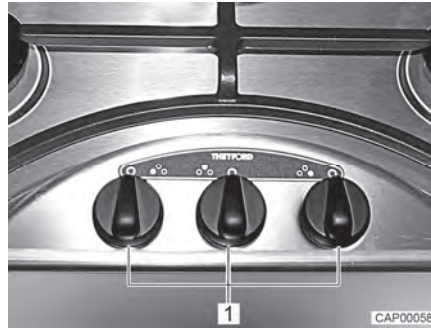
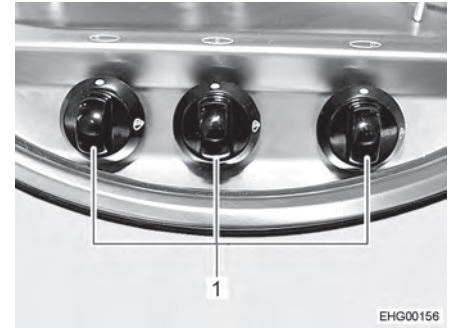
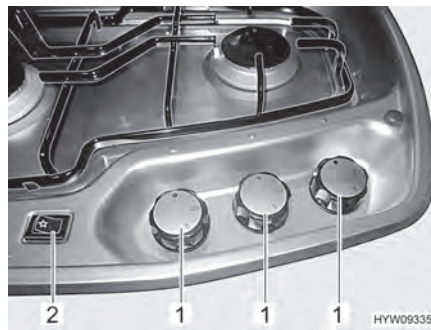

Fig. 115 Operating controls for gas cooker
Fig. 116 Operating controls for gas cooker (alternative)
Fig. 117 Operating controls for gas cooker (alternative)
- Turn the control knob (Fig. 115,1, Fig. 116,1 or Fig. 117,1) on the burner you wish to use to the ignition position (large flame).
- Electronic ignition: Press rocker switch (Fig. 117,1). Ignition sparks are generated at the burner.